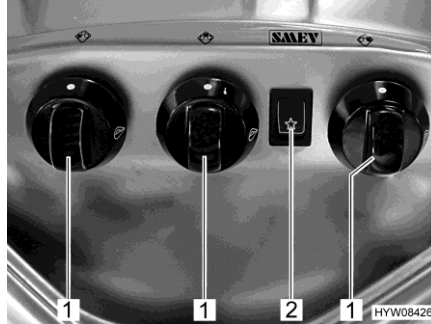

Fig. 142 Operating controls (gas cooker)
- Turn the control knob (Fig. 142,1) on the burner you wish to use to the ignition position (large flame).
- Press rocker switch (Fig. 142,2). Ignition sparks are generated at the burner.